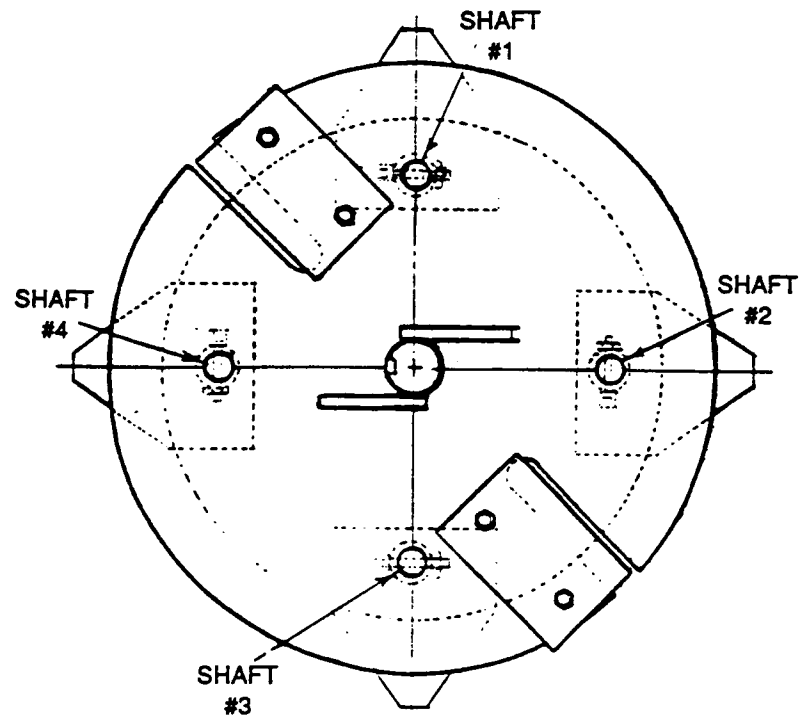

FIG. 1
- STEP 5:** Remove socket head bolt and nut from shaft (1) (see drawing on page 13). Slide knife shaft from rotor assembly and discard old shaft, shredding knives, spacers, nut and bolt.
- STEP 6:** Install in shaft one (1) location new shaft, shredding knives, spacers, nut and bolt. Follow order of assembly shown in Figs. 1 & 2 for shaft one (1) on page 13.
- STEP 7:** Repeat steps 5 & 6 for shafts 2, 3 and 4. Be sure to install shredder knives and spacers as shown in Figs. 1 & 2 on page 13 for proper rotor balance.